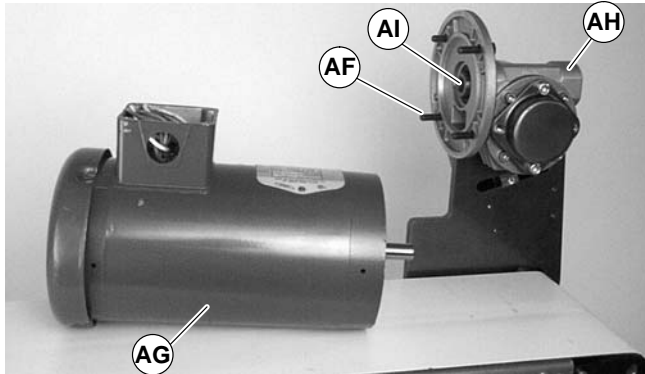

Figure 29
4. Remove four screws (AF of Figure 29). Detach motor (AG) from gear reducer (AH). Retain motor output shaft key (AI).